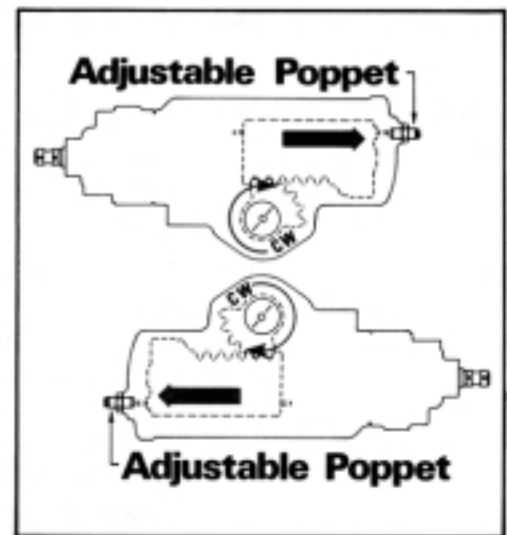

Figure 38
- 4.3 To position the rack piston for poppet adjustment, observe the end of sector shaft (51) for direction of travel with the engine at idle. Have the steering wheel rotate in the direction that will rotate the sector shaft to the end of its travel (axle against axle stop) clockwise (CW) or counter-clockwise (CCW) as indicated by the shaft rotation arrow placed as shown in FIGURE 38 or 39 and pointing toward the adjustable poppet and closed end of housing (55).